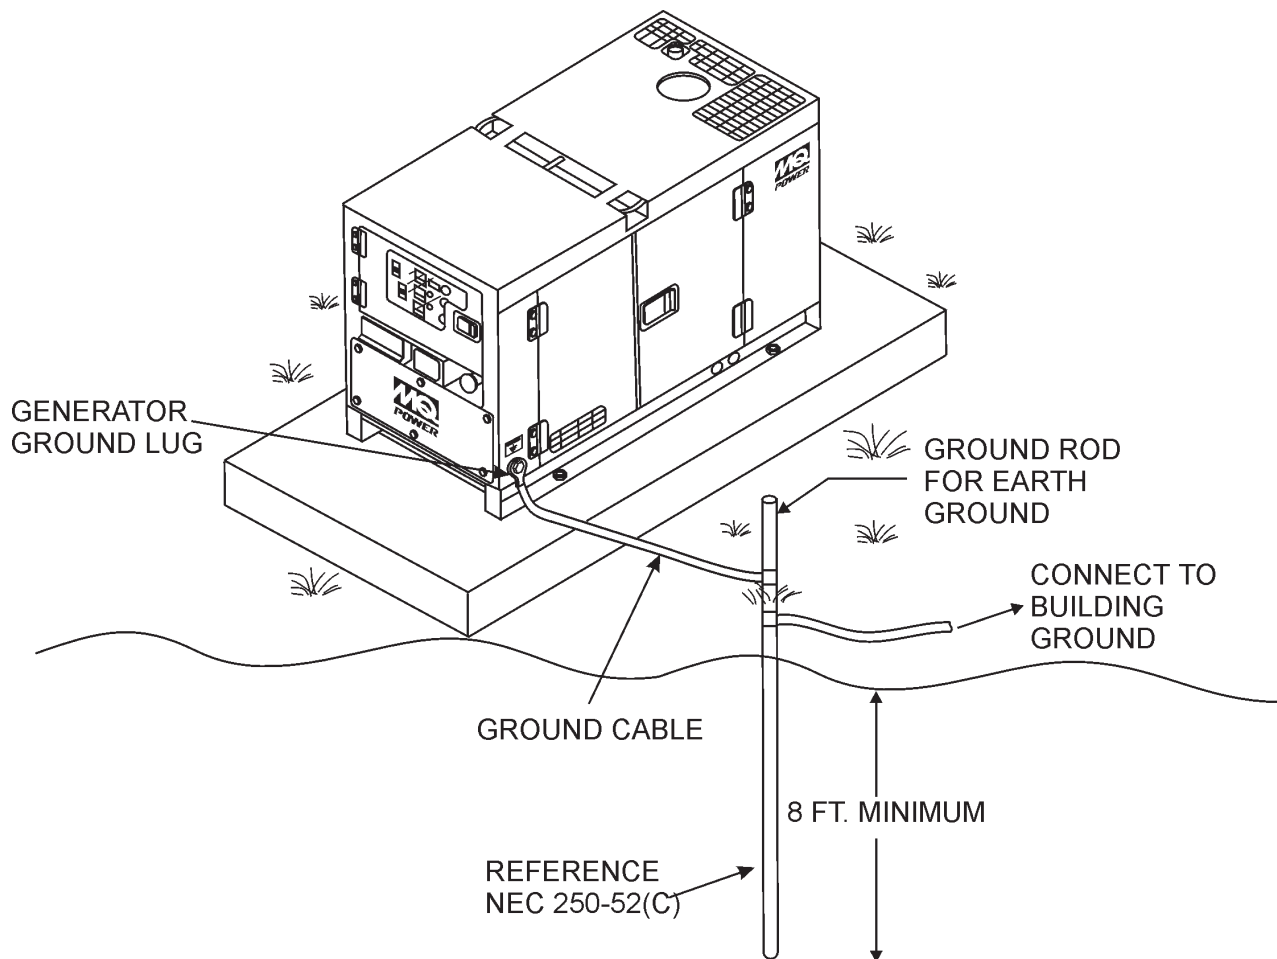

Figure 31. Typical Generator Grounding Application
2. When grounding the generator (Figure 31) connect the ground cable between the lock washer and the nut on the generator and tighten the nut fully. Connect the other end of the ground cable to earth ground.